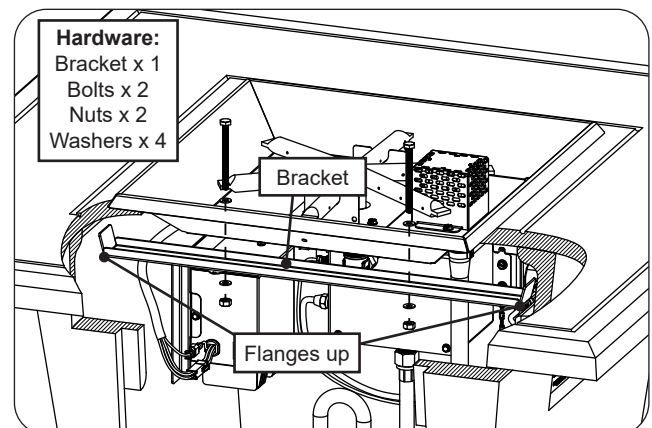

Fig. 36-4 Install bracket
7. Locate the supplied support bracket and install as shown in Fig. 36-4. The bracket must be inserted into the enclosure through the door opening, aligned with the holes found on the burner pan, and fastened with a  $\frac{1}{2}$ " wrench and the supplied bolts (2), nuts (2), and washers (4).